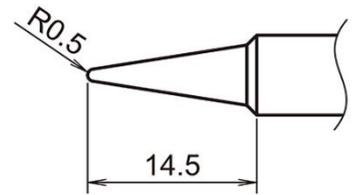

Fig. 15 Example of Soldering Iron Tip Size
- ③ Solder Shell-A, Shell-B, and the FPC using a soldering iron (Fig. 15◆).